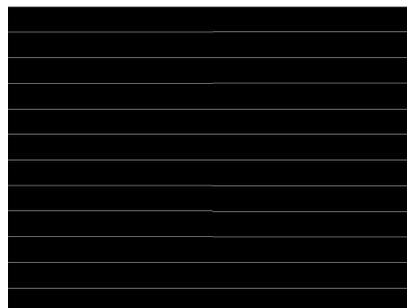

Figure 6. Example of Horizontal Lines Test Pattern
10. As noted in Table 4, the colors for the horizontal lines pattern are specified using both the foreground and background colors. The foreground color is used for the horizontal lines, and the background color is used for the space between the lines. As noted in Table 5, the user specifies the foreground line width, as well as the background line width. The user must determine the line spacing for each resolution display. For example, if the foreground line width = 1, and the background line width = 9, there would be a single pixel horizontal line on every tenth line. An example of a horizontal lines pattern is shown in Figure 6.